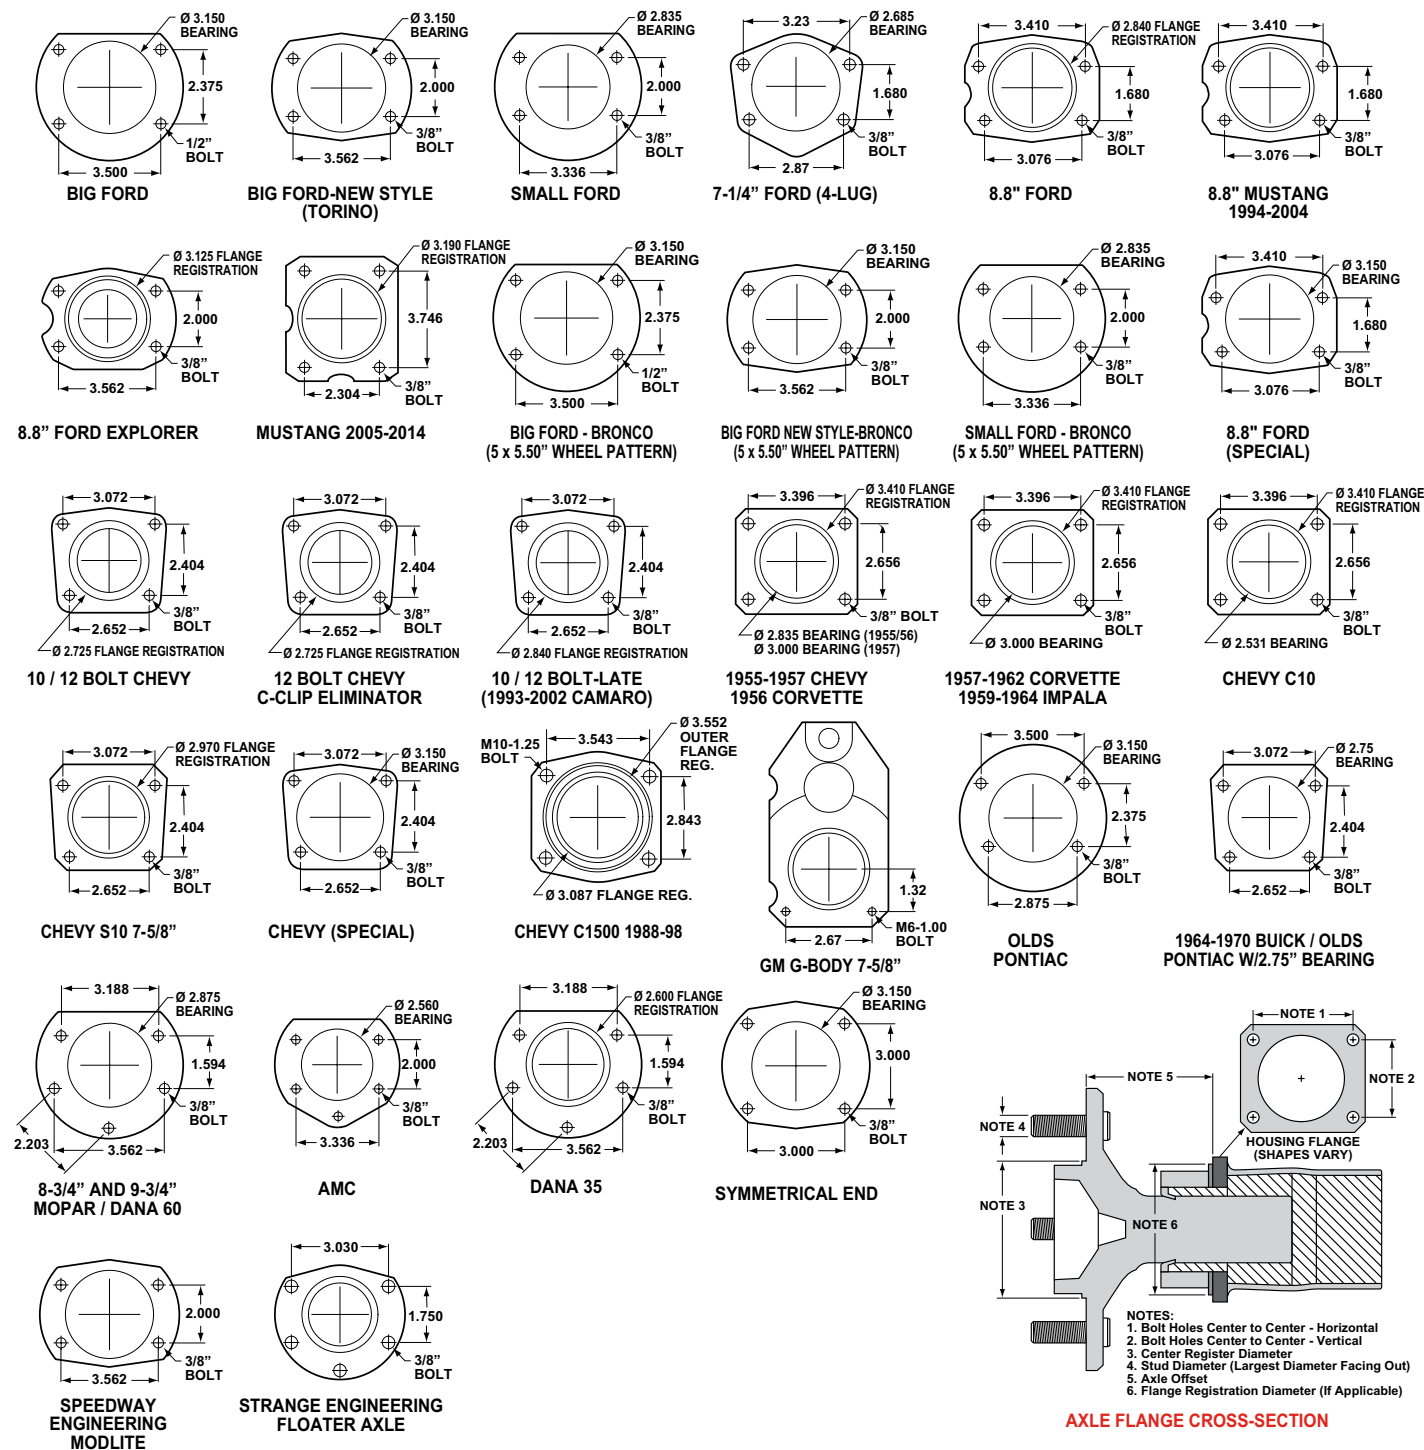

Figure 5. Rear Housing Flange Chart and Axle Flange / Offset Cross-Section
- Make sure this is the correct kit to fit the axle housing flange, not necessarily the rear end make. Many times after market manufacturers put a different make of axle housing flange on the stock rear end housing (see Figure 5). Example; Big Ford rear ends with Olds-Pontiac flanges, therefore, an Olds-Pontiac rear disc brake kit would be the correct kit to order.
- Dimension from wheel side of axle flange to wheel side of axle housing flange (see Figure 5, lower right hand corner). This dimension is critical to ensure proper alignment of the rotor to the caliper, and should match offset given in the kit description.